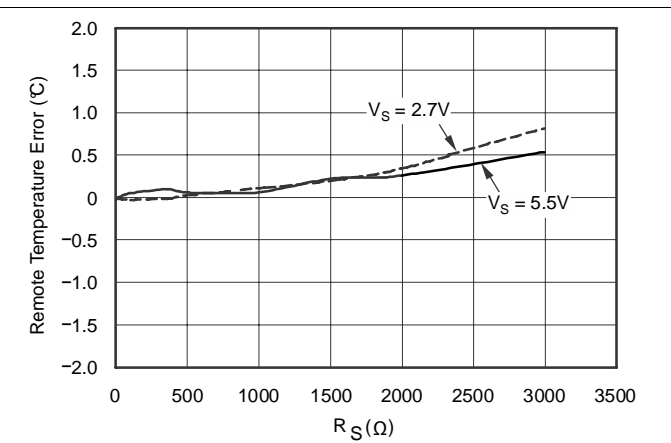
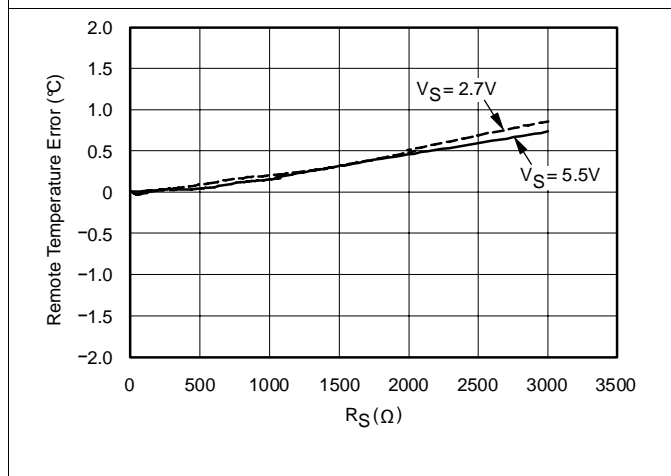

Figure 4. Remote Temperature Error vs Series Resistance (Diode-Connected Transistor, 2N3906 PNP)
Figure 5. Remote Temperature Error vs Series Resistance (GND Collector-Connected Transistor, 2N3906 PNP)
- (1) Diode-connected configuration provides better settling time. Transistor-connected configuration provides better series resistance cancellation. NPN transistors must be diode-connected. PNP transistors can either be transistor or diode-connected. TI recommends this layout for the MMBT3906LP and MMBT3904LP devices.
- (2) R_s (optional) must be $< 1.5 \text{ k}\Omega$ in most applications. Selection of R_s depends on specific applications; see the Filtering section.
- (3) C_{DIFF} (optional) must be $< 1000 \text{ pF}$ in most applications. Selection of C_{DIFF} depends on specific application; see the Filtering section and Figure 5.
See Figure 4 and Figure 5 for details on the effect of series resistance and power-supply voltage on sensed remote temperature error.